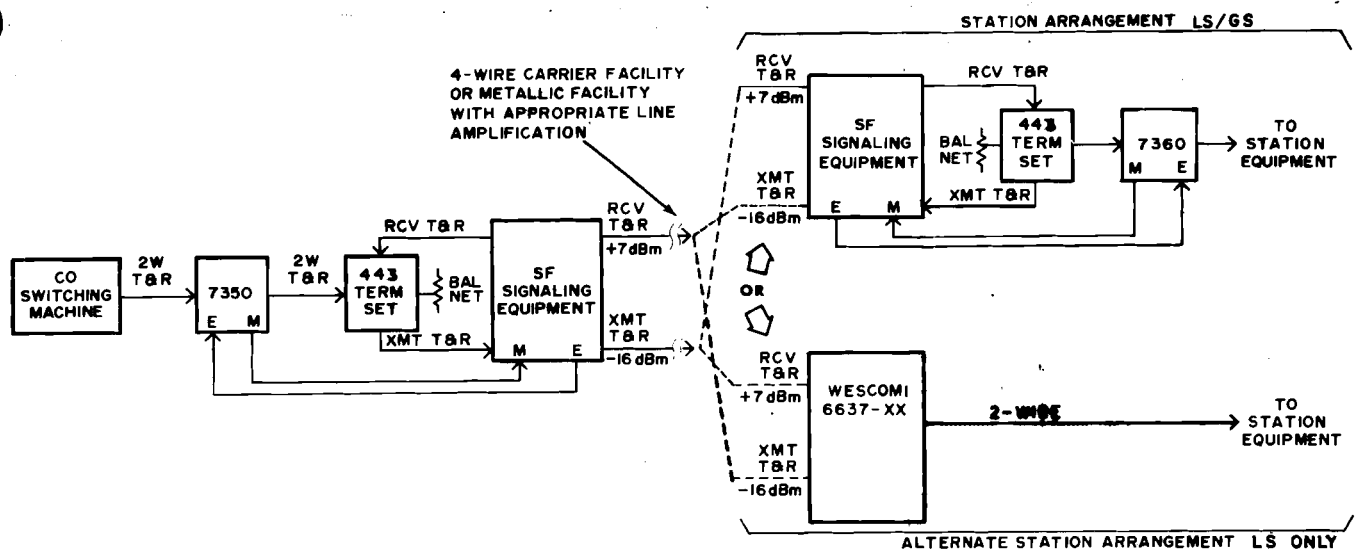

Figure 2. 7350 Used in Conjunction With an E&M SF Signaling System
2.02 Refer to Figures 2 and 3 for typical applications of the 7350. The 7350 may be conditioned for one of three modes of operation: ground start, premonitory busy loop start, and loop start. If connection at the station end of the facility is made to a PBX ground-start trunk, office-end and station-end equipment must be arranged for ground-start operation. If the con-